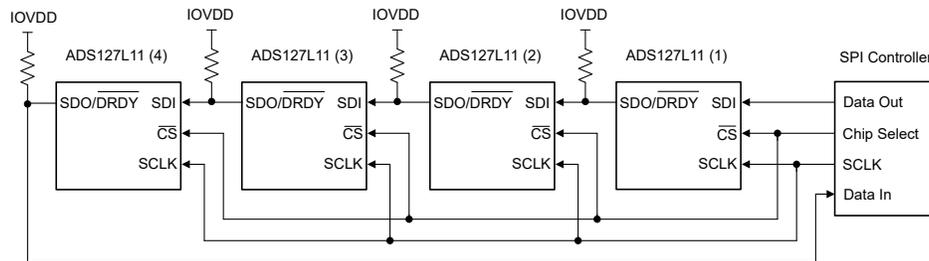

Figure 8-36. Daisy-Chain Connection
Figure 8-36 shows four devices connected in a daisy-chain configuration. The SDI of ADS127L11 (1) connects to the host SPI data out, and SDO/DRDY of ADS127L11 (4) connects to the host SPI data input. The shift operation is simultaneous for all devices in the chain. After each ADC shifts out the conversion data, the data of SDI appears on SDO/DRDY to drive the SDI of the next device in the chain. The shift operation continues until the last device in the chain is reached. The SPI frame ends when CS is taken high, at which time the data shifted into each device is interpreted. The SDO/DRDY pin must be programmed to data output-only mode.
Figure 8-38 shows the detailed input data sequence for the daisy-chain write register operation of Figure 8-36. 40-bit frames for each ADC are shown (24-bits of data, with the STATUS and CRC bytes enabled). Command operations can be different for each ADC. The read register operation requires a second frame operation to read out the register data.
Figure 8-39 shows the clock sequence to read conversion data from the device connection provided in Figure 8-36. This example illustrates a 32-bit output frame (24-bits of data, with the CRC byte enabled). The output data of ADC (4) is first in the sequence, followed by the data of ADC (3), and so on. The total number of clocks required to shift out the data is given by the number of bits per frame × the number of devices in the chain. In this example, 32-bit output frames × four devices result in 128 total clocks.